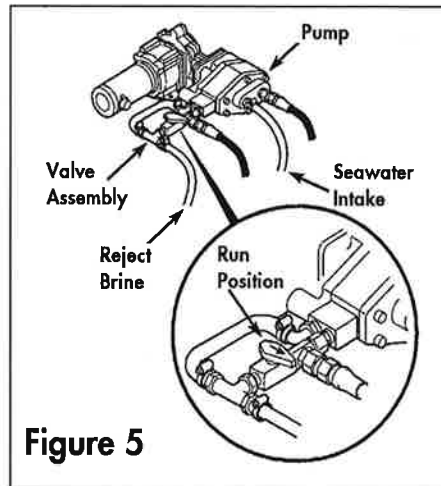

Figure 5
- Make sure the clean/run valve lever on the pump is in the "run" position (See **Figure 5**).